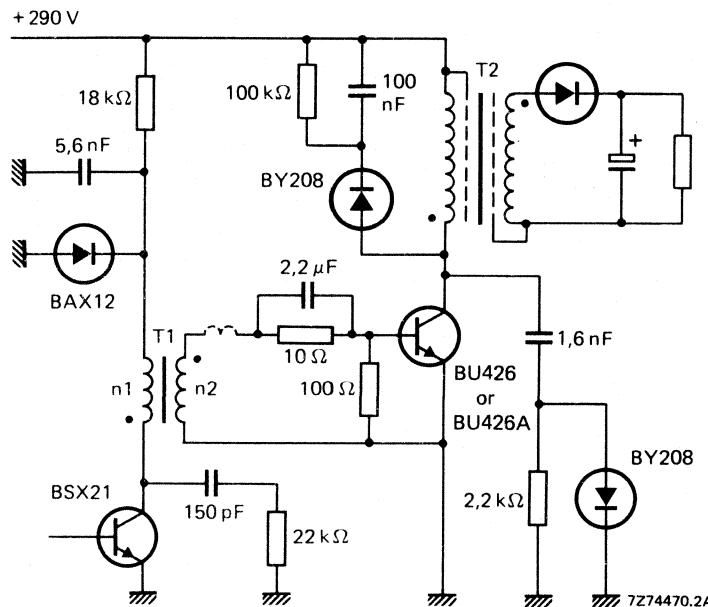

Fig. 19 Practical output circuit of a flyback SMPS of BU426 or BU426A.
All these variables influence the collector dissipation, so that a simple presentation of the design information is only possible if the information is restricted to the main application area of the relevant transistor type. Therefore, as the BU426 or BU426A will mainly be used in flyback converters and the BU433 in forward SMPS, the information of Figs 19, 20, 21 and 22, 23, 24 is based on these applications:
To ensure thermal stability minimum value of T_{amb} in this equation is 40 °C. As indicated, the BU433 will mainly be used in (non-isolated) forward converters, where the turn-off losses are limited by the maximum collector emitter voltage ($\approx 300\text{-}350$ V). The rate-of-rise of the voltage during turn-off must be below 1000 V/ μ s. Application of this transistor in low-power flyback converters is also possible, provided that the rate-of-rise is limited to 500 V/ μ s. For the BU426(A) a rate-of-rise of 1000 V/ μ s is permissible. Practical SMPS output circuits for an output power in the order of 180 W are given in Figs 19 and 22. At a collector current of 2,5 A and a base current of 0,25 A in these circuits the following turn-off times can be expected.